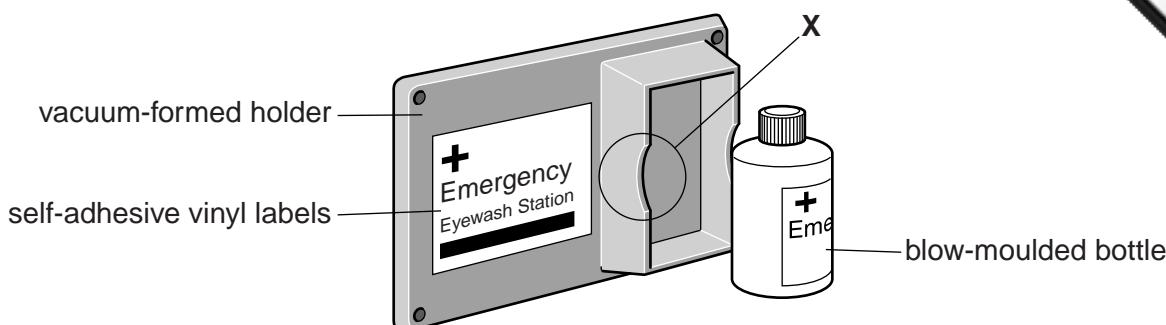

Fig. 6
- 5 Fig. 6 shows an eyewash station.